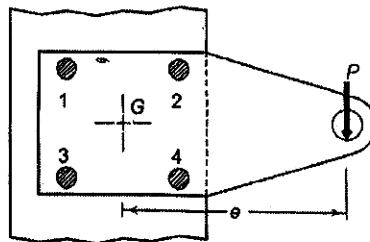

Fig. 2
- b) The structural connection shown in the fig. 2, is subjected to nan eccentric force P of 10 kN with an eccentricity of 500 mm from CG of the bolts. The centre distance between bolt 1 and bolt 2 is 200 mm and the centre distance between bolt 1 and 3 is 150 mm. All the bolts are identical. The bolts are made from plain carbon steel 30C8 ($S_{yt}= 400 \text{ N/mm}^2$) and the factor of safety is 2.5. Determine the size of the bolt.